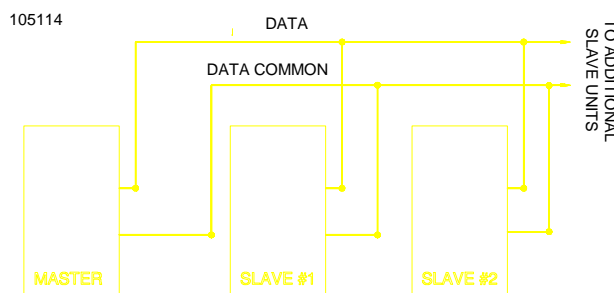

Figure 4
The individual receivers are wired according to the instructions on page 2. In addition, the Data and Data Common wires must be connected as follows (refer to Figure 4):
- Master/Slave wires not connected properly. Refer to Figure 4.